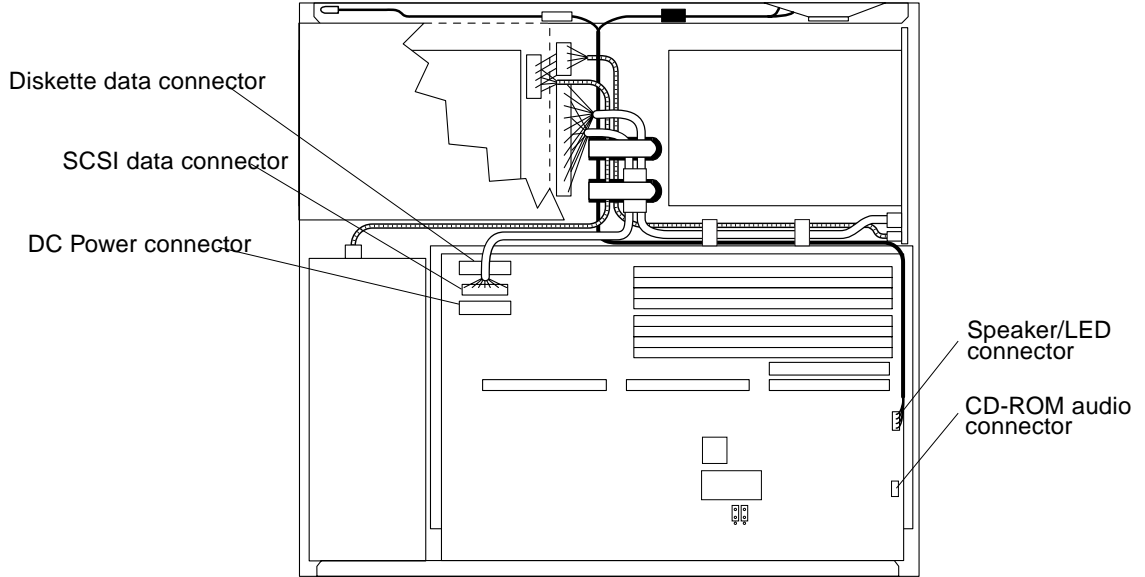

FIGURE 9-19 System Board Cable Connections
- 4. Unplug the DC power, SCSI data, diskette data, speaker/LED, and CD-ROM audio cables from the system board (see FIGURE 9-19).**